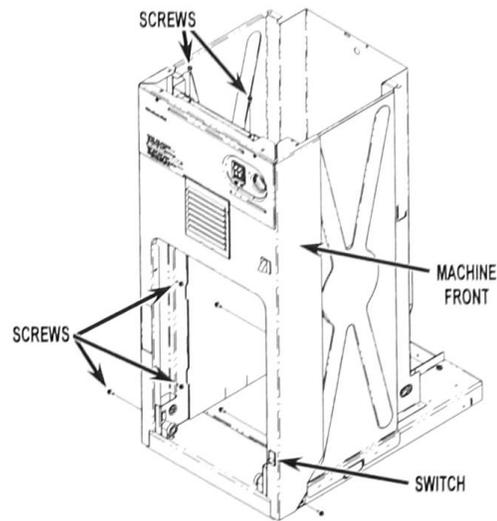

FIGURE 3
5. Remove the eight (8) screws from the machine front and remove the machine front. Disconnect wiring to switch and remove switch. See *Figure 3*.